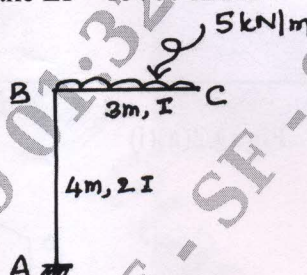

Fig.Q.5(b)
- b. Using castigliano's approach find the vertical and horizontal deflection at 'C' of abent loaded as shown in Fig.Q.5(b). Take $EI = 15000 \text{ kN/m}^2$. (12 Marks)